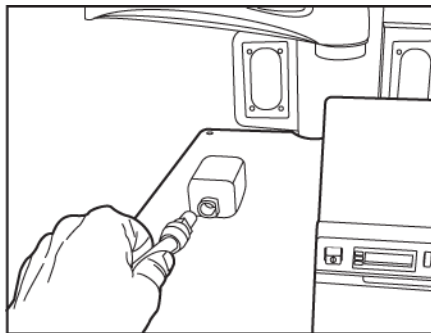

Fig. 11 Connect the ECG lead
- 2 Power up the computer by pressing the pushbutton switch directly behind the ECG connector shown in Figure 11 and sharing the same housing.